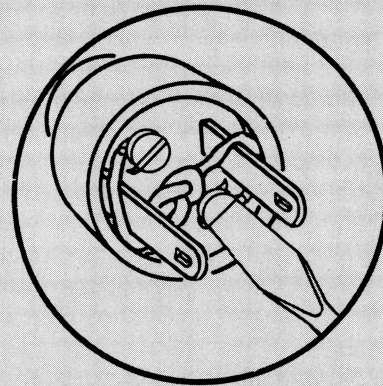

Fig. 10
10. Tighten the screw. Insulation should come to the screw but not under it. (Fig. 10).